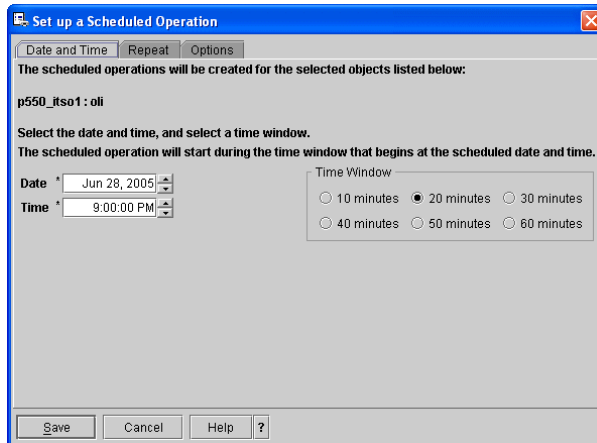

Figure 17 Selecting the starting window of the scheduled operation
- Next, in the **Date and Time** tab, select the time for the beginning of the operation and a time window where the operation can be started as shown in Figure 17.